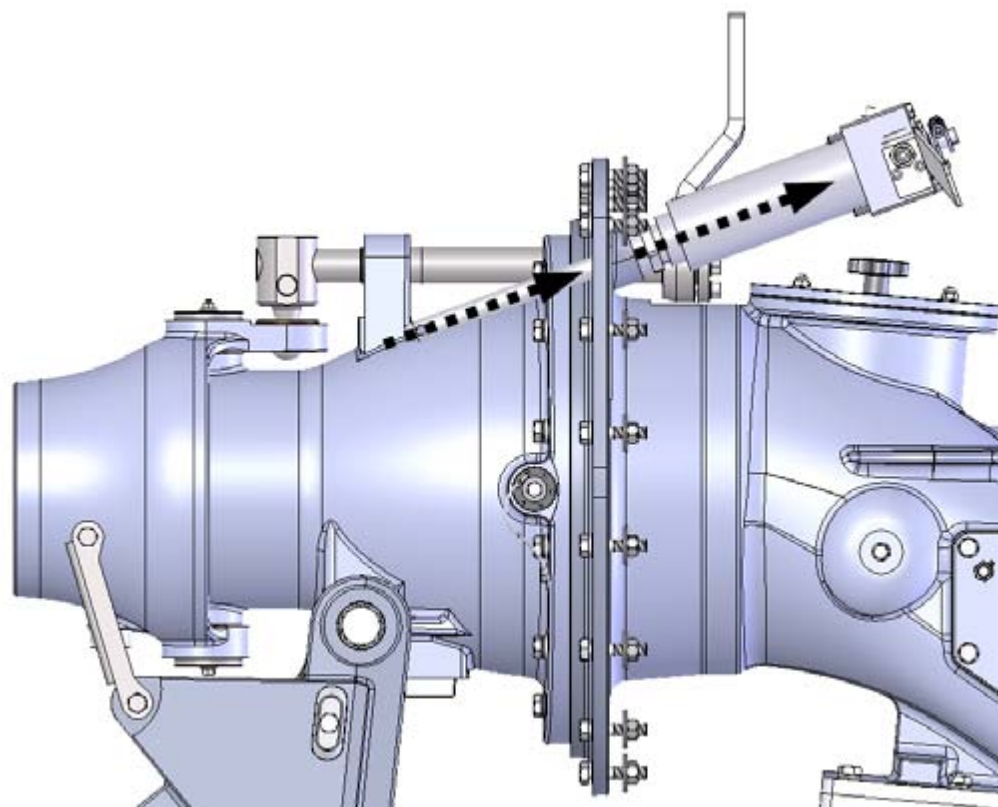

Figure 39. Pushing the cylinder
5. Unscrew the cylinder from the frame of the jet towards the engine room (figure 39).